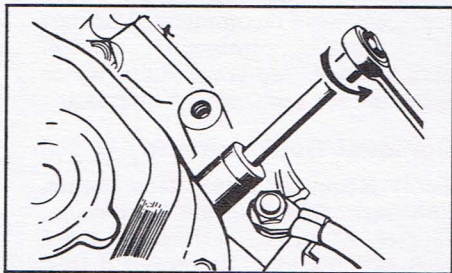
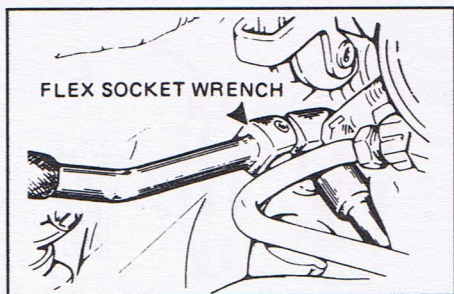

Figure 3 - Removing spark plug (L4)
Figure 4 - Removing spark plug (V6)
5. Remove the first spark plug using a 5/8" deep socket. (Turn counter-clockwise.) See Figure 3 (4 cyl.) or Figure 4 (6 cyl.).